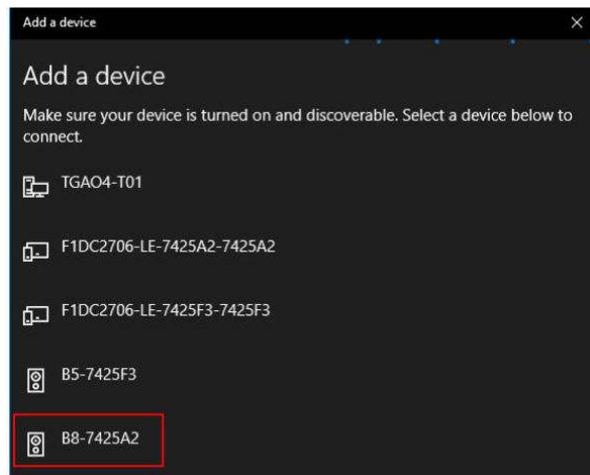
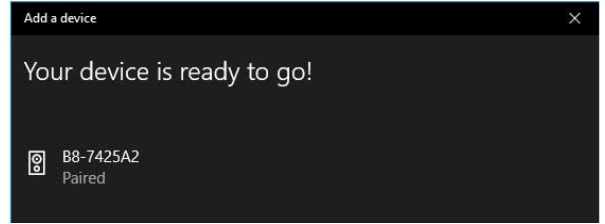

Figure 17. Select EVAL-VSMUCZ
Figure 18. Device Connected
- 4. Select the EVAL-VSMUCZ from the list of devices (in this example, Figure 17 shows the device as B8-7425A2). The device is now connected (see Figure 18).